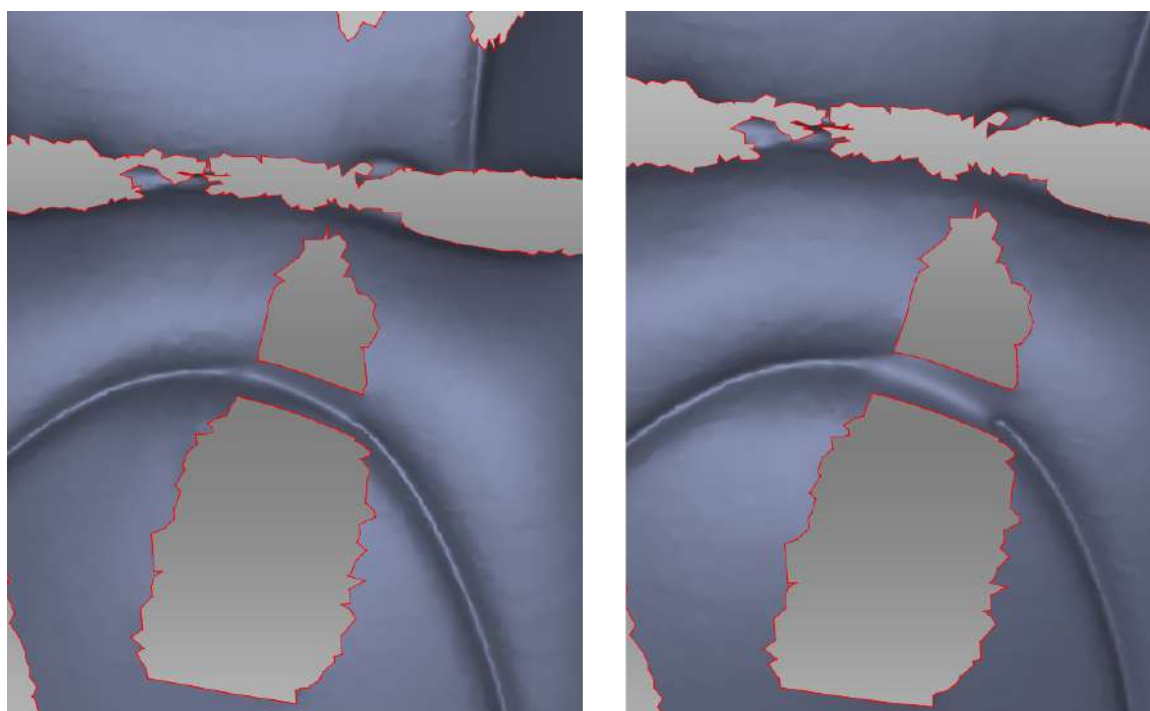

Figure 104: Small smoothness values on left and maximum on right.
- Use small or medium values of the *Bridge smoothness* slider (Figure 104).